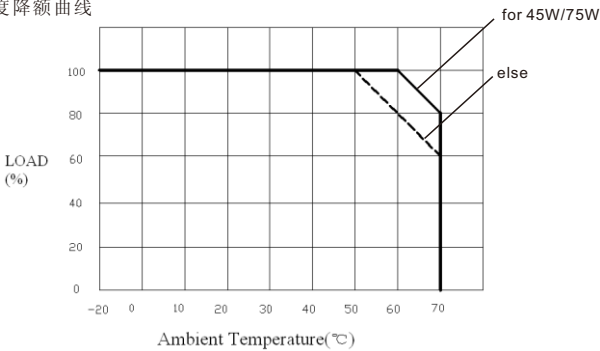

Fig1
5.Output derate curve refer to Fig1.